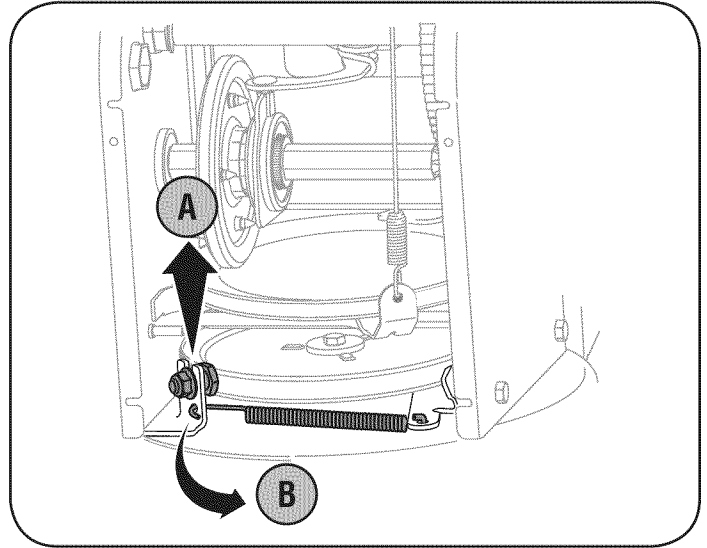

Figure 25
6. Remove the belt as follows. Refer to Figure 25.